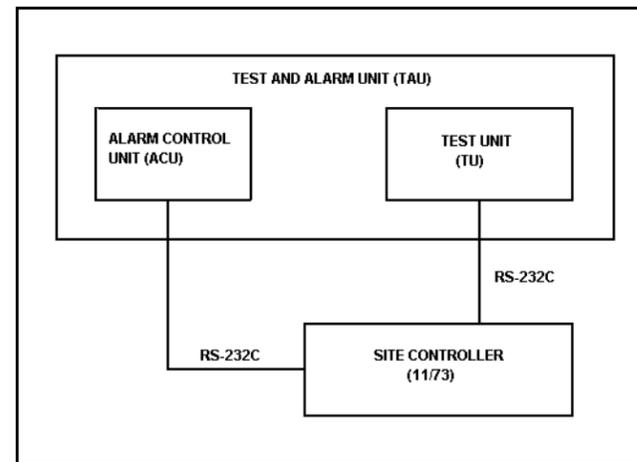

Figure 1 - Test and Alarm Unit
Two functional units make up the TAU: the Alarm and Control Unit (ACU) and the Test Unit (TU). The ACU reports alarm and status input information for control of user-supplied devices, while testing of the EDACS stations is accomplished by the TU. The TAU is directed by the Site Controller. A block diagram of the TAU and Site Controller interconnections is shown in Figure 1.